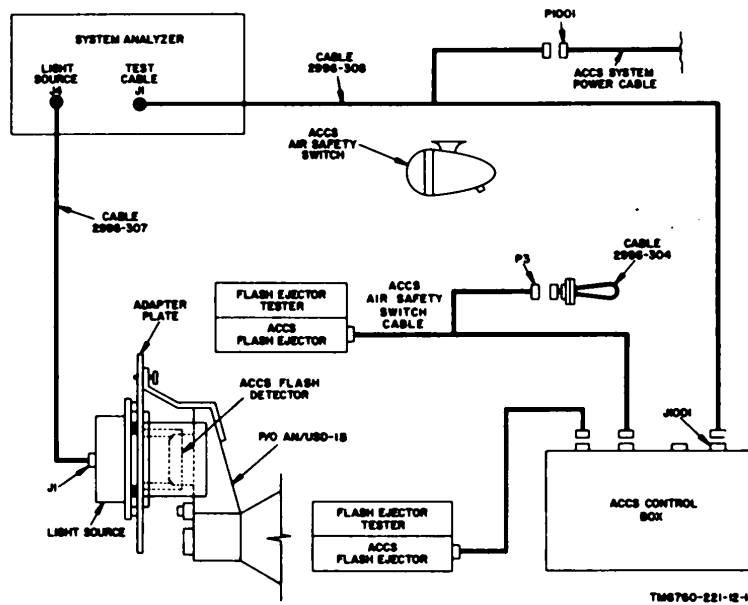
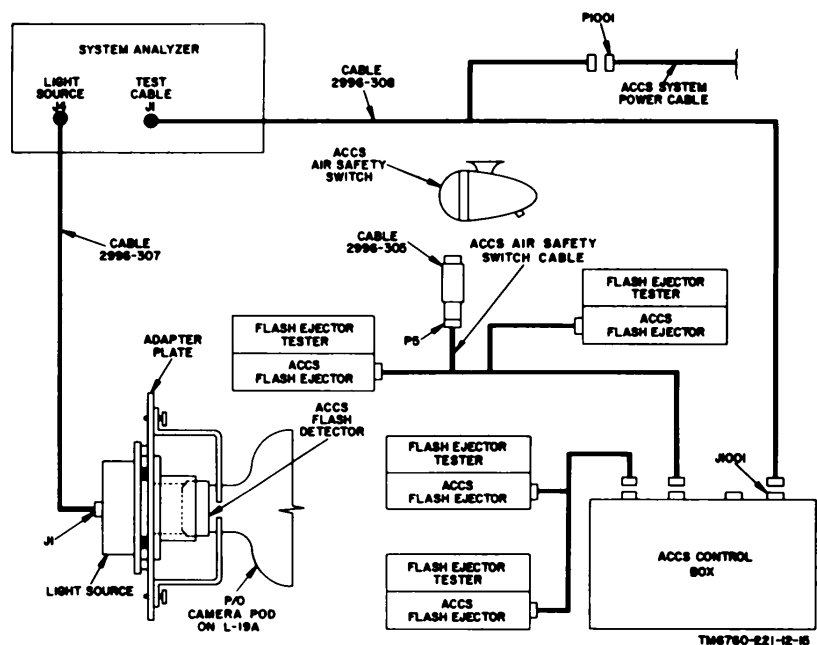

Figure 14. Connection diagram for testing ACCS (AN/USD-1B) and camera in night mode of operation.
Figure 15. Connection diagram for test ACCS (L-19A aircraft) and camera in night mode of operation.
- a. *Connections* (fig. 14 and 15).
Note: When performing the following connection procedures in the AN/USD-1B, refer to figure 14. When performing the connection procedures on the ACCS in the L-19A aircraft, refer to figure 15.
- (1) Disconnect connector P1001 of the ACCS system power cable from connector J1001 on the ACCS control box.
- (2) Disconnect connector P3 (fig. 14) or P5 (fig. 15) on the cable that is connected to the ACCS air-safety switch.
- (3) Connect cable 2996-308 to connector J1 on the system analyzer, connector J1001 on the ACCS control box, and connector P1001 on the ACCS system power cable.
- (4) Connect cable 2996-307 to connector J4 on the system analyzer and to the light source.
- (5) Disconnect the ACCS air-safety switch cable from the ACCS air-safety switch; connect the appropriate cable (cable 2996-305 for the L-19A (fig. 15) or cable 2996-304 for the AN/USD-1B (fig. 14)) to the connector (P3 or P5) on the end of the ACCS air-safety switch cable.
- (6) Using the adapter plate (fig. 3) attach the light source to the ACCS flash detector (AN/USD-1B (fig. 14) or L-19A aircraft (fig. 15)).
- (7) Attach the flash ejector testers to the ACCS flash ejectors (two on the AN/USD-1B (fig. 14) or four on the L-19A aircraft (fig. 15)).
- (1) Set the POWER switch in the R/C SIMULATOR section to OFF.
- (2) Remove power from the ACCS.
- (3) Disconnect cable 2996-307, cable 2996-308, the light source, and flash ejector testers from the ACCS and from the system analyzer (fig. 14 or 15).
- (4) Reconnect connector P1001 of the ACCS system power cable to connector J1001 on the ACCS control box.
- (5) Disconnect cable 2996-304 (fig. 14) or cable 2996-305 (fig. 15) from the connector (P3 or PS) on the end of the ACCS air-safety switch cable; reconnect the ACCS air-safety switch cable to the ACCS air-safety switch.